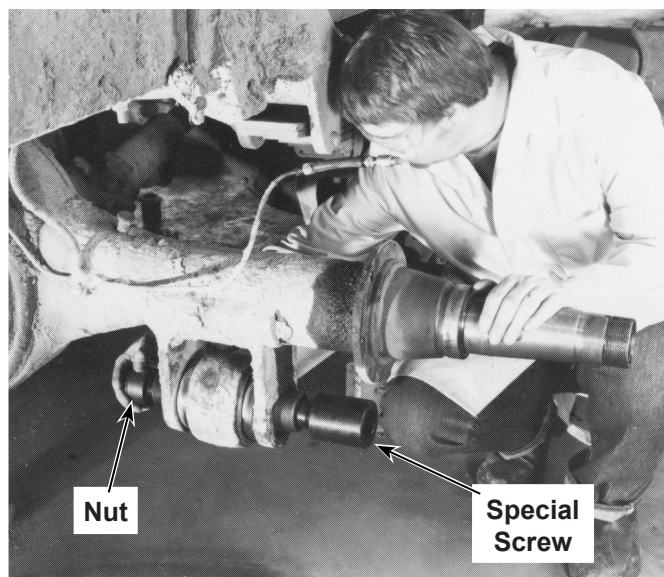

Figure 4
3. Insert the special screw (4) into the hanger tube and thread nut (1) onto the special screw as shown in Figure 4.